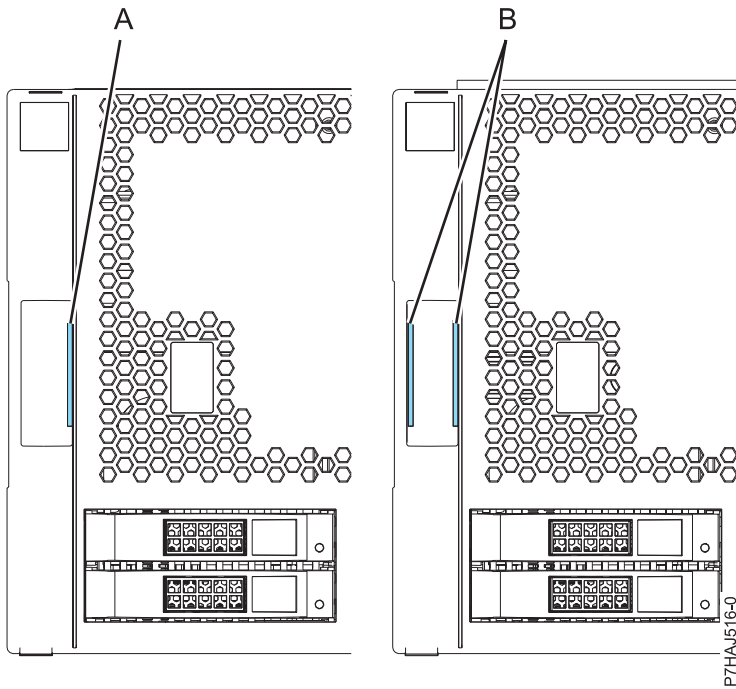

Figure 6. Identifying the older and newer covers
stripes (B) on the cover assembly latches. See Figure 6.